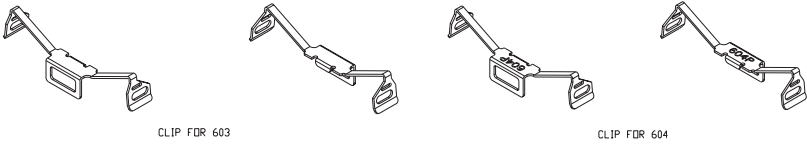

Figure 5-2a. Retention Clips (left: 603-pin, right: 604-pin)
5. Secure the heatsink by locking each retention clip into its proper position. When correctly installed, the clips should *click* into place and the three black tabs on the CPU retention pieces should protrude fully through the corresponding holes on the each clip. See Figures 5-2a and 5-2b for diagrams of the retention clips and the heatsink installation procedure.